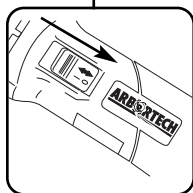

Fig.2
3. Before plugging in, ensure that the on/off switch is in the OFF position (Fig.2).